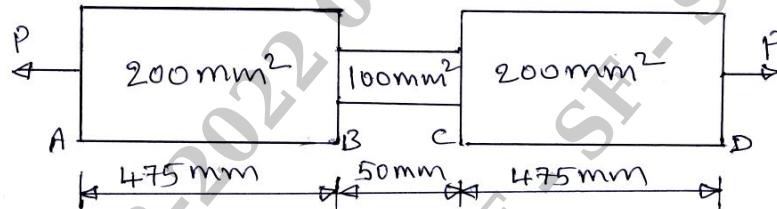

Fig. Q9 (b)
b. The maximum stress produced by a pull in a bar of length 1 m is  $150 \text{ N/mm}^2$ . The area of the cross sections and length are shown in Fig. Q9 (b). Calculate the strain energy stored in the bar of  $E = 2 \times 10^5 \text{ N/mm}^2$ . (10 Marks)